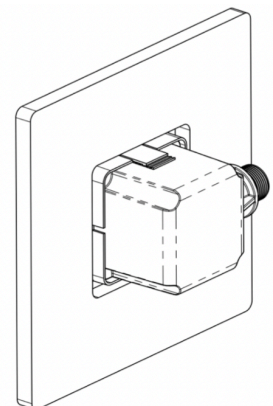

FIGURE 3
5. Attach the Flush Cover plate to the SP160 by press fitting the unit into the mechanically locking tabs. (See Figure 3)